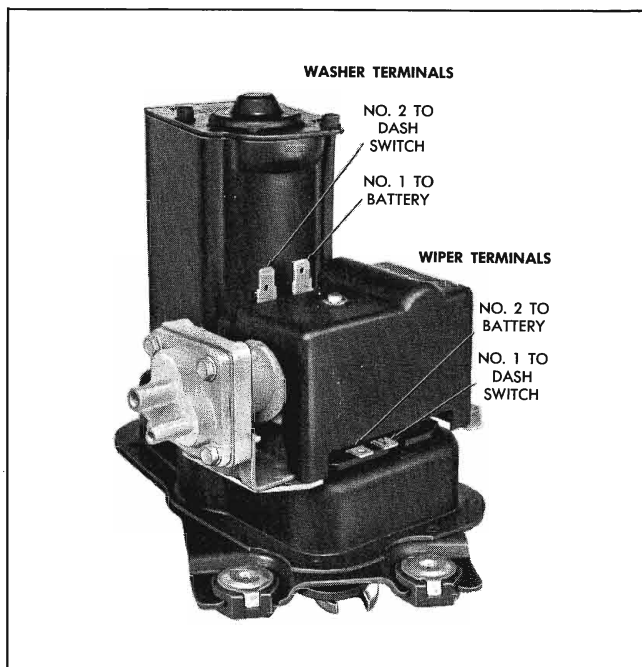

Fig. 11-119 Washer Terminals
2. If these items check out, start wiper motor only, then push washer button and listen for "click" as washer relay pulls in. If no "click" is heard, check for 12 volts at terminal No. 2 Fig. 11-119.
3. If correct voltage was found in step No. 2, connect a jumper wire from terminal No. 1 to ground (Fig. 11-119) and operate wiper. If washer relay "click" is heard and pump functions correctly, a defective dash switch or an